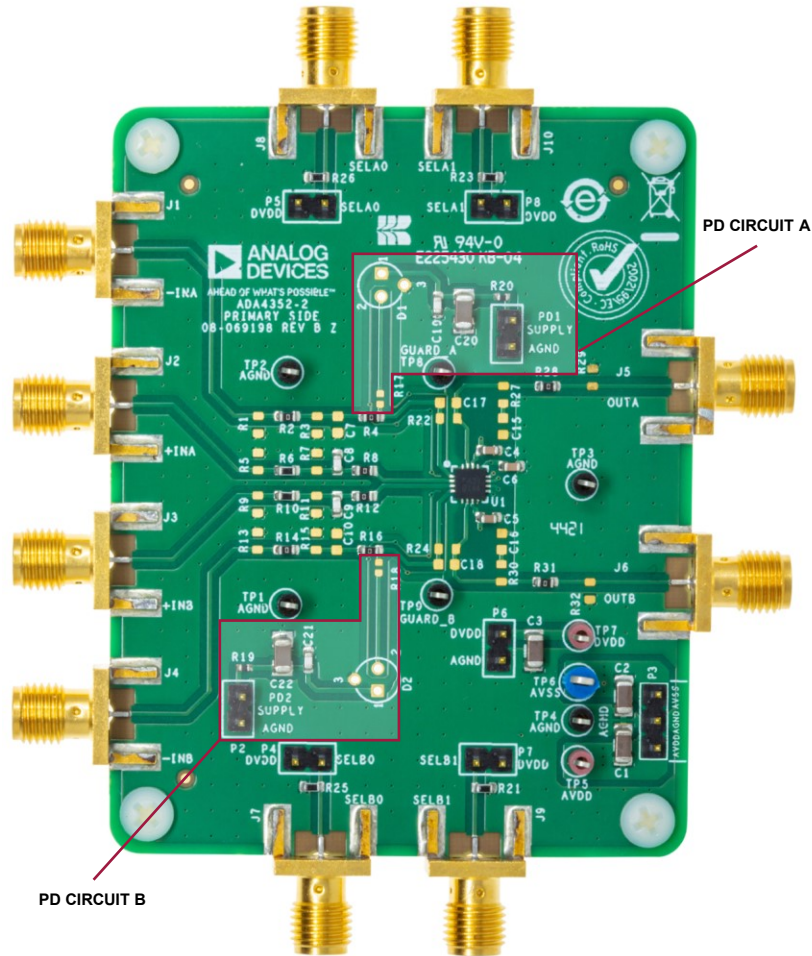

Figure 5. Photodiode Circuits of the EVAL-ADA4352-2EBZ
The EVAL-ADA4352-2EBZ comes with on-board layout provision for a simple photodiode (PD) circuit. The unpopulated D1 (for channel A) and D2 (for channel B) slots allow for three-pin photodiodes on TO packages or fiber optic receivers. The two-pin headers P1 and P2 can be used to connect the photodiode to external supply. The PD circuit can be connected to the input by installing a 0 Ω resistor to R17 (for channel A) and R18 (for channel B). *Figure 5* shows their location within the board.